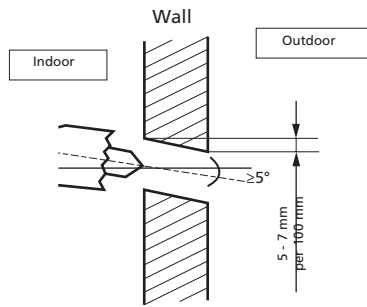

Figure 10
- a. Determine the positions of the holes according to the diagram detailed in Fig. 9. Drill one (1) hole ( $\geq 85$  mm for SC46xx & SC54xx /  $\geq 65$  mm for S46xx & S54xx & S-JAxx22) slanting slightly downwards to outdoor side, this will prevent water to come indoors (fig 10).